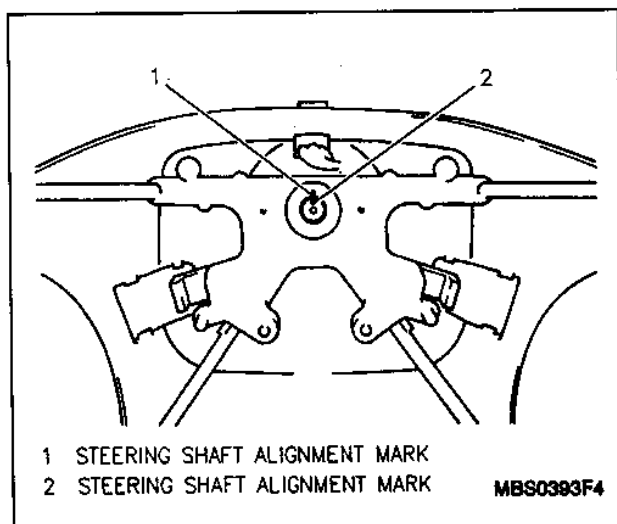

Figure 7—Aligning Steering Wheel and Shaft
1. Steering wheel to steering shaft, matching alignment marks on wheel and shaft; secure with steering wheel retaining nut. (Figure 7).